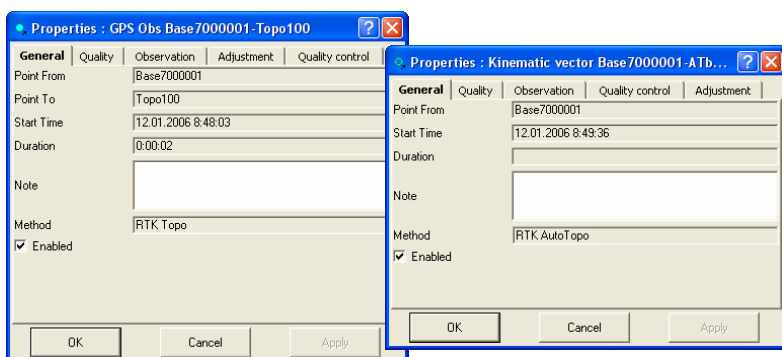

Figure 5-91. General Properties
2. View or edit *General* tab fields (Figure 5-91 on page 5-60); available fields differ depending on the type of observation selected.